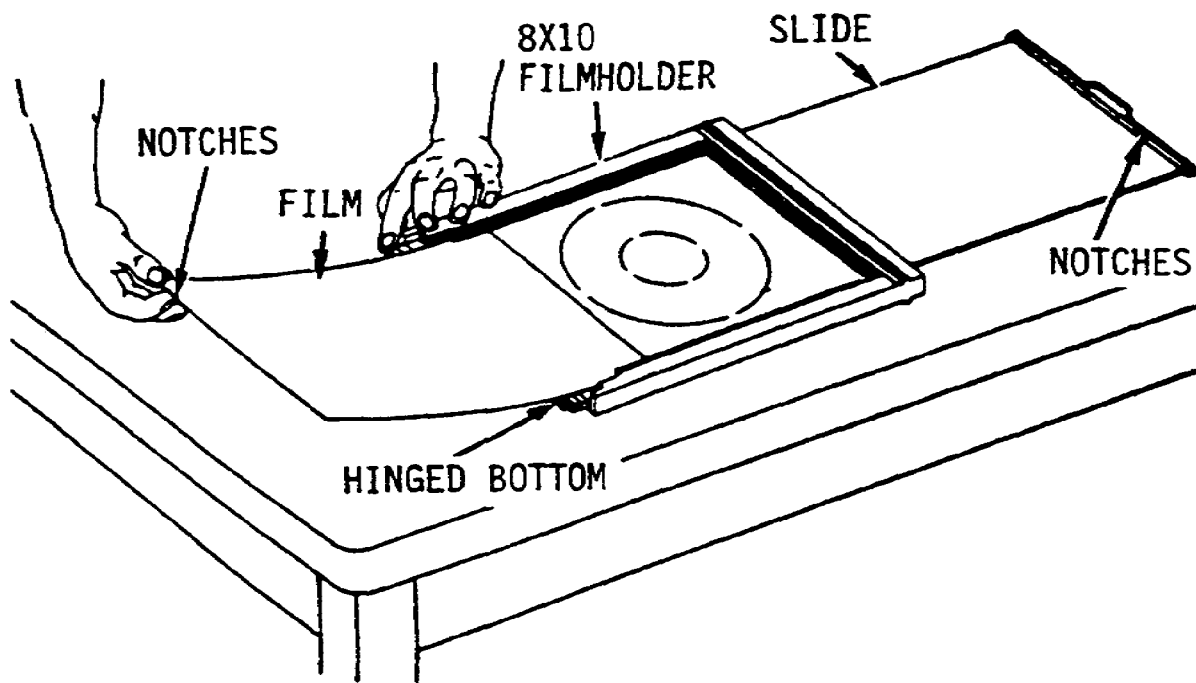

Figure 1-53. Loading 8x10-inch film holder.
b. Loading 8x10-inch film holders. The following procedures apply to each of the 8x10-inch film holders, (fig 1-53).
(1) Place the film holder on a clean work surface. Make sure the holders are clean and free of dust.
(2) Pull out the slide and partially reinsert it in the film holder. Make sure that the bright side of the slide (notches) faces out.
(3) Open the hinged bottom of the film holder. Hold the hinged bottom open with the left hand and the film in the right hand, with the forefinger on the notches. Make sure that the notches are in the position as shown, so that the emulsion (dull) side will face up.
(4) Slide the film into the grooves along the sides of the film holder, until it is fully inserted. Close the hinged bottom.
(5) Insert the slide completely into the film holder and into the hinged bottom.
(6) Set the locking screw (not shown) to hold the slide in position.
(7) Turn the film holder over and load the opposite side by repeating the procedures in (1) through (6) above.